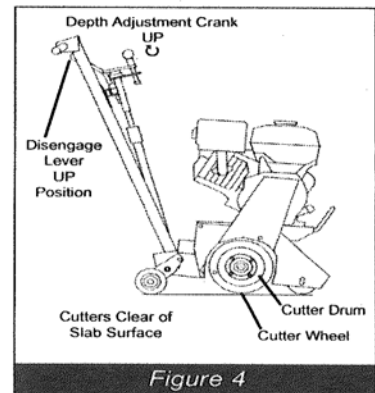

Figure 4
- Slowly lower the cutter head to the slab surface with the cutter head lever. (Figure 2, Item 1) & (Figure4)